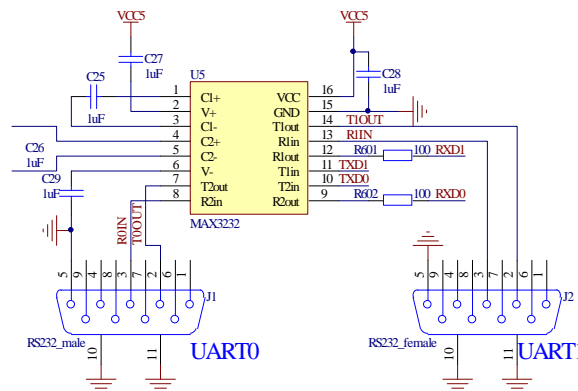

Figure 14 RS232 interface
RS232 circuit is shown as Figure 14. Labels TXD0, RXD0, TXD1 and RXD1 are connected to pin 42, 49, 75 and 76 of LPC2214 via jumpers, respectively.
**SPECIAL NOTES:** In common RS232 communication, three wires are sufficient: transmit data, receive data, and signal ground. You could see this in Figure 14. But definitions of ports are different except signal ground pin 5. **As a computer's port (male port commonly), pin 2 is used to receive data, pin 3 is used to transmit data, while as a terminal device's port, the usage of these two pins are opposite.** So, on CREEK robot board, pin 2 is used to transmit data, pin 3 is used to receive data. When communicate with a computer, you need a female to female RS232 cable, **straight through**, when communicate with other devices, check the ports definition at first.
In Figure 14, two resistors are used to restraint current to protect IO ports of LPC2214.